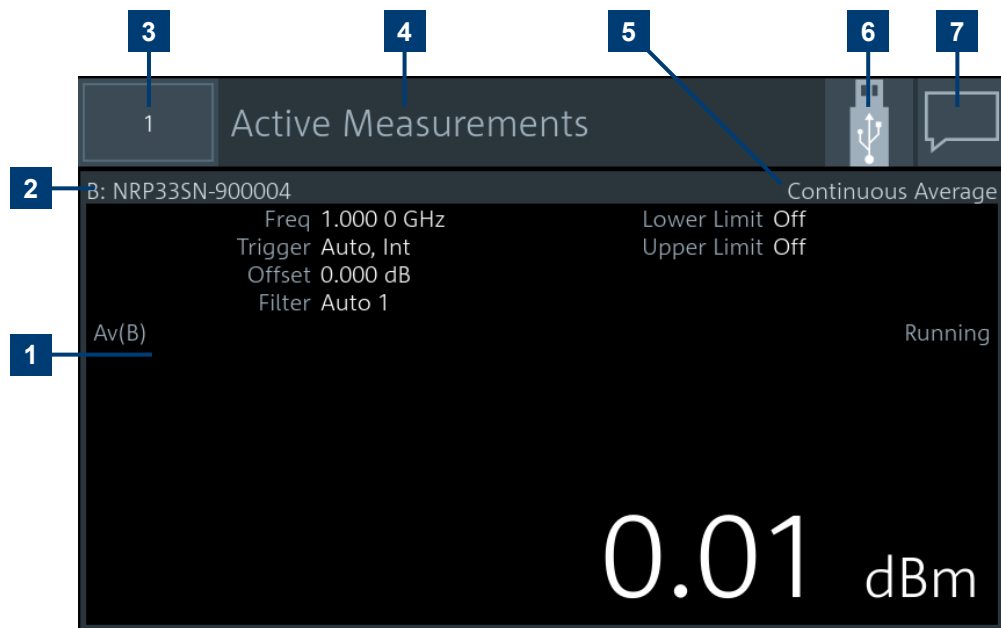

Figure 4-1: Start dialog (example for setup with one power sensor)
- ▶ In the start dialog, tap the pane of the measurement you want to access. In this example, tap (7) in Figure 4-1.
The status information is displayed in the upper right corner, left from the notification center. See Figure 4-1.
See (6) in Figure 4-1.